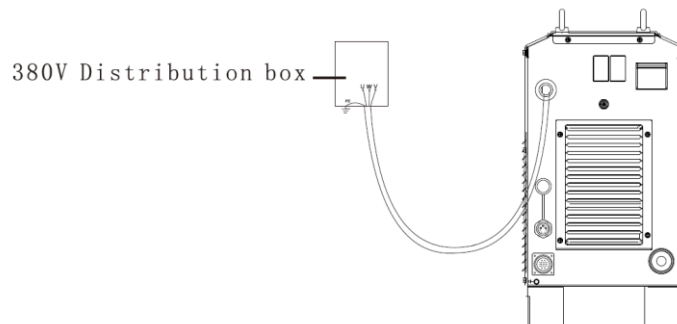

Figure 2-6 Schematic diagram of connections for welding power source side input cable
2. Connect one end of the input cable to the input terminal of power source and fix them with a cable clamping plate; connect the safety grounding wire in the input cable to the M6 grounding bolt on the enclosure of welding power source, as shown in Figure 2-6.